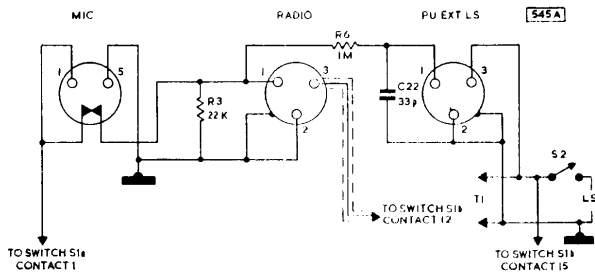

Fig. 2. 441TR Mk. I Sockets
- (1) Socket input circuit as shown in Fig. 2.
- (2) R33 is omitted, V2B grid return to chassis being through R29 on playback and R21 on record.